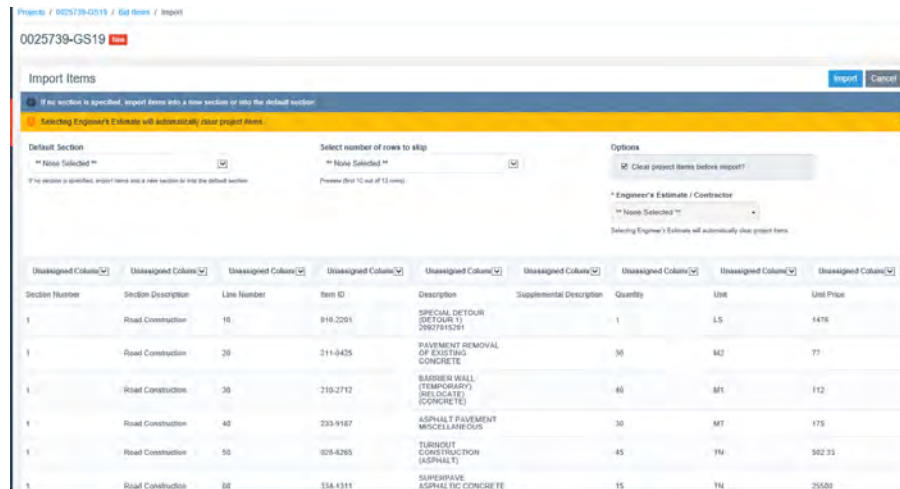

Figure 4-10. Import Bid Items
- For example, Column 4 is the item ID and Column 8 is the unit in Figure 4-10. Select Column 1 from the drop down list of the Item ID field and select Column 2 from the drop down list of the Unit field. Only the Item ID, Description, and Unit columns are required. If you restrict the import to items in the reference list, you do not need to assign a Description column.
7. Assign each column of the file to its matching field in the Appia service. For example, Column 1 is the item ID and Column 2 is the unit in Figure 4-10. Select Column 1 from the drop down list of the Item ID field and select Column 2 from the drop down list of the Unit field. Only the Item ID, Description, and Unit columns are required. If you restrict the import to items in the reference list, you do not need to assign a Description column.
10. If there are rows in the import file that are not part of an item, select those rows in the Select number of rows to skip field. In Figure 4-10, the first row is the header information and not part of an item.